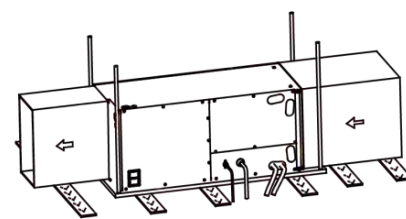

Fig. 2.2
- If air handler is installed as **Fig. 2.2**, make sure there is enough space for care and maintenance and the height between the air handler and ground is above 8 feet/2500mm. and the air handler is not accessible to the general public.